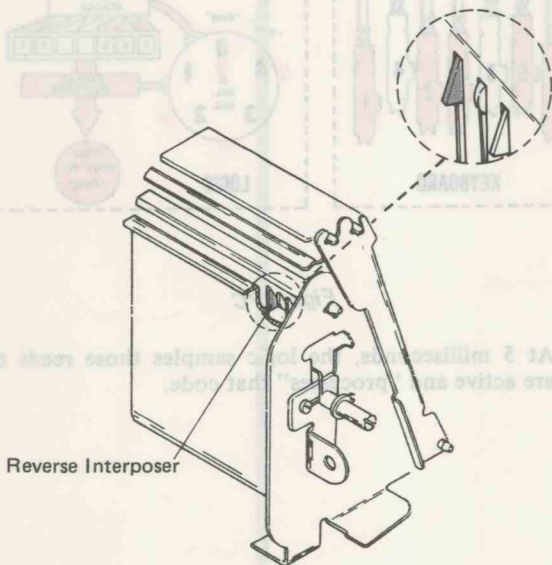

Figure 8
- d. Locate the reverse interposer – Look between the leading edge of the keyboard bottom section and the center section at the right front corner of the keyboard (See Figure 8). The reverse interposer is the third interposer from the right. Observe this interposer as you move each slider manually.